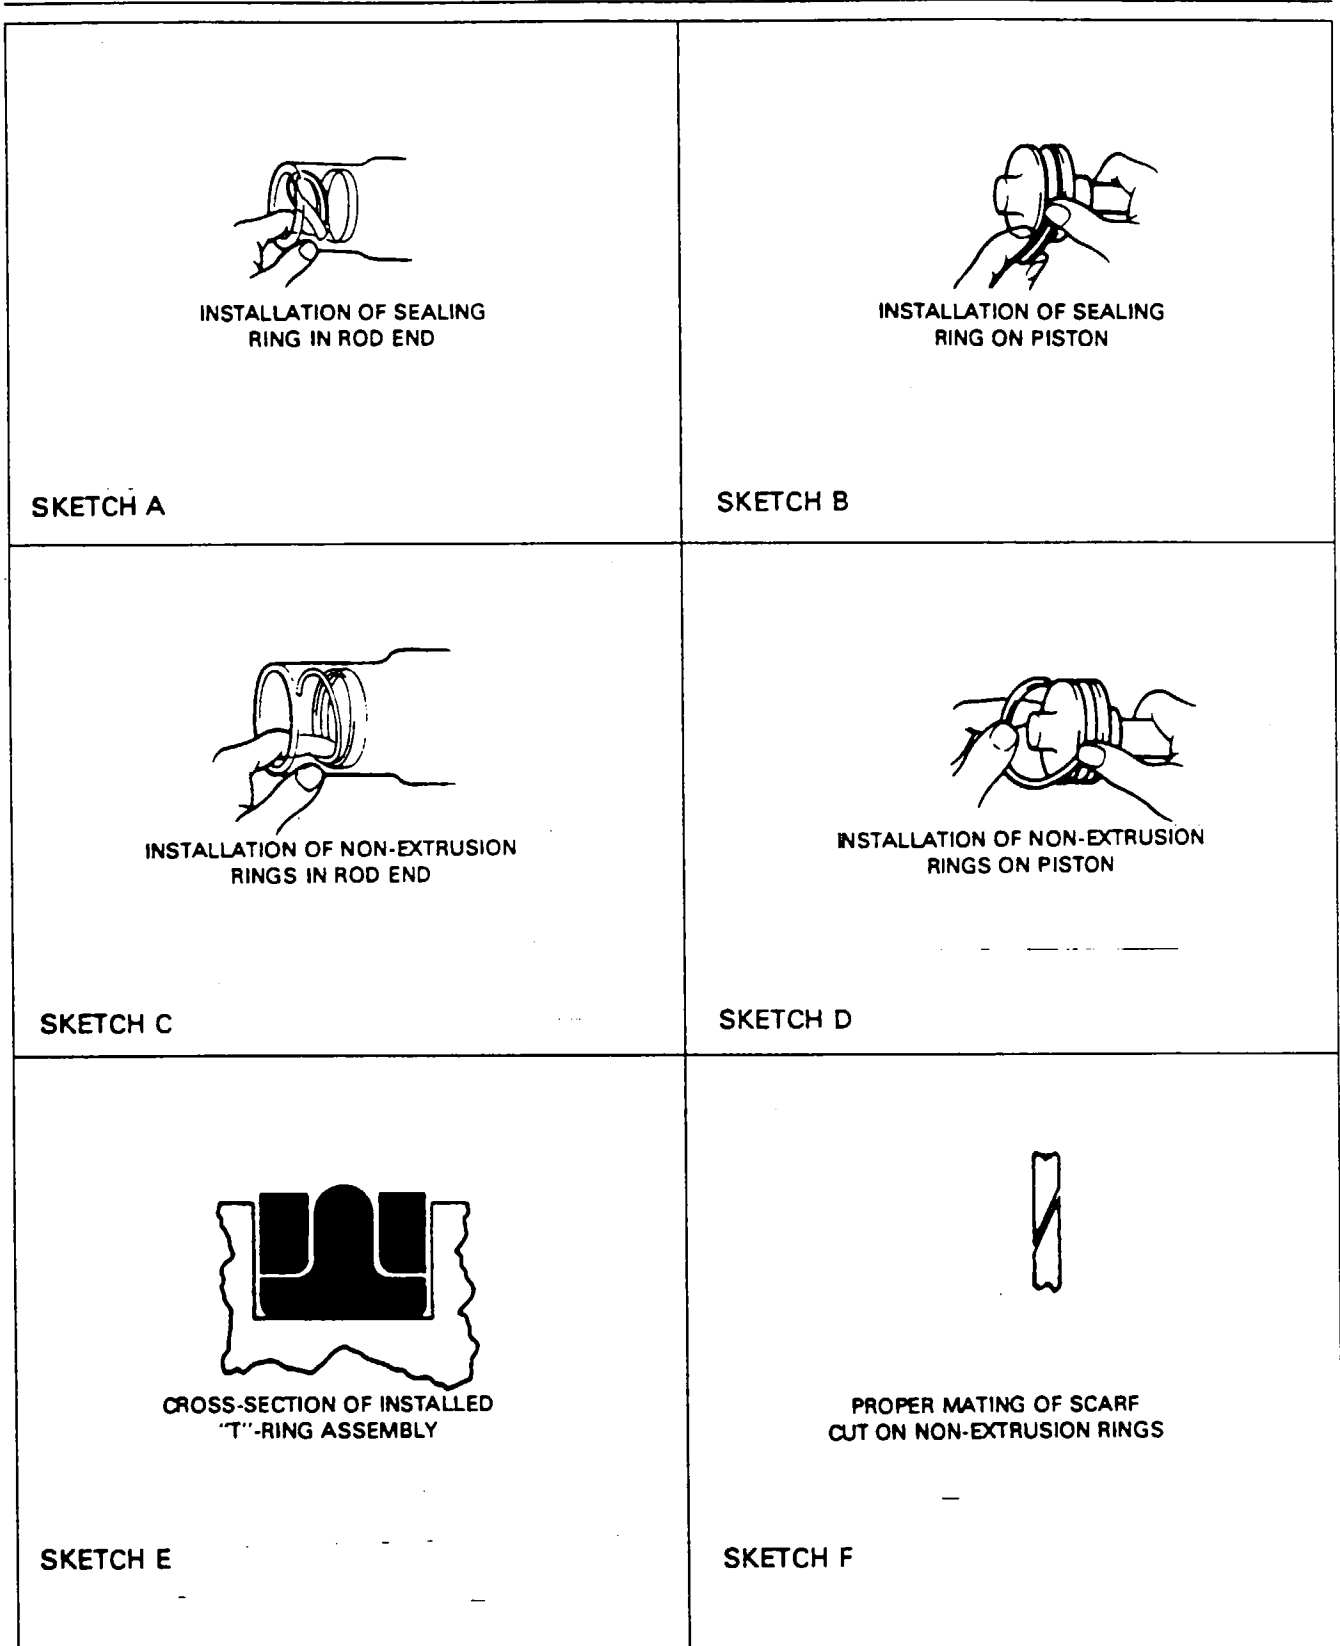

Figure 32-6. Installation of T-Rings
4. To remove the complete cylinder and fork assembly from the oleo housing as shown in Figure 32-6, cut safety wire and remove cap bolts that attach the steering arm and aligner guide bracket to the top of the oleo cylinder.